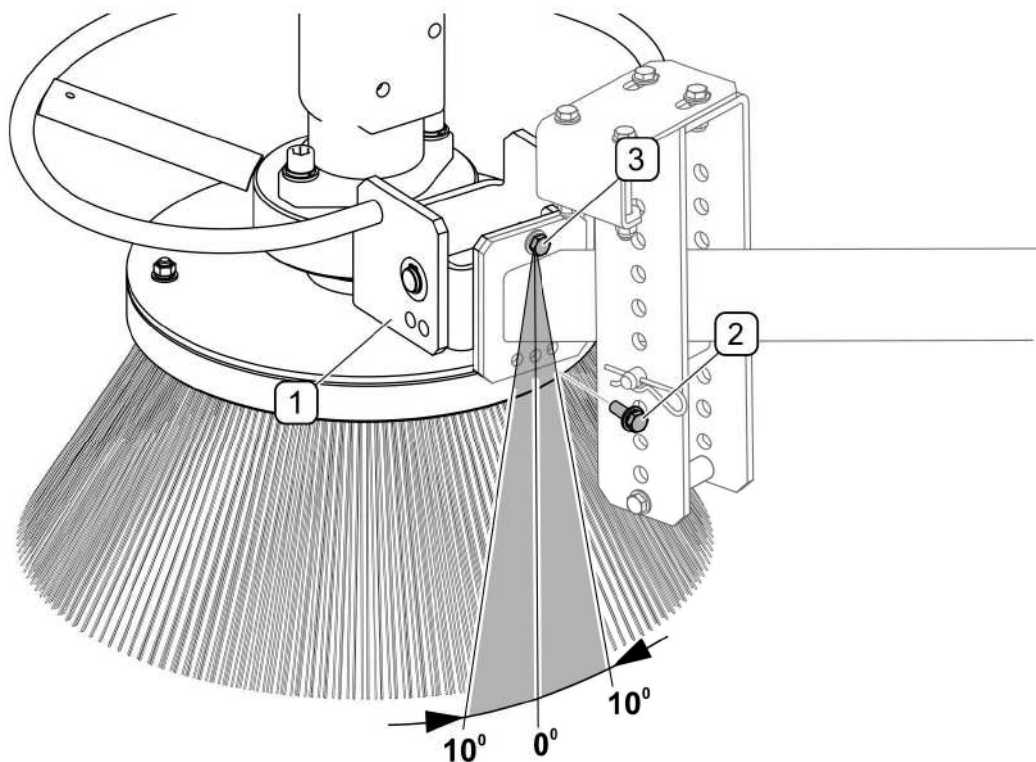

FIG. 5.6 **Adjusting lateral tilt**
(1) - brush head bracket, (2) - lateral tilt retaining bolt, (3) - bolt
To change the lateral tilt angle (FIG. 5.6), remove the retaining bolt (2), loosen the bolt (3) and turn bracket (1) to the right or left side so as to place the bolt (2) in the corresponding hole. Tighten the bolt (3).